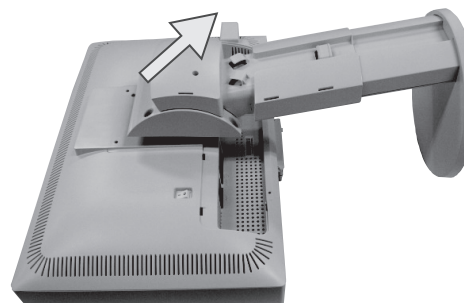

Figure M.4
5. Remove the stand (**Figure M.4**). The monitor is now ready for mounting in an alternate manner.